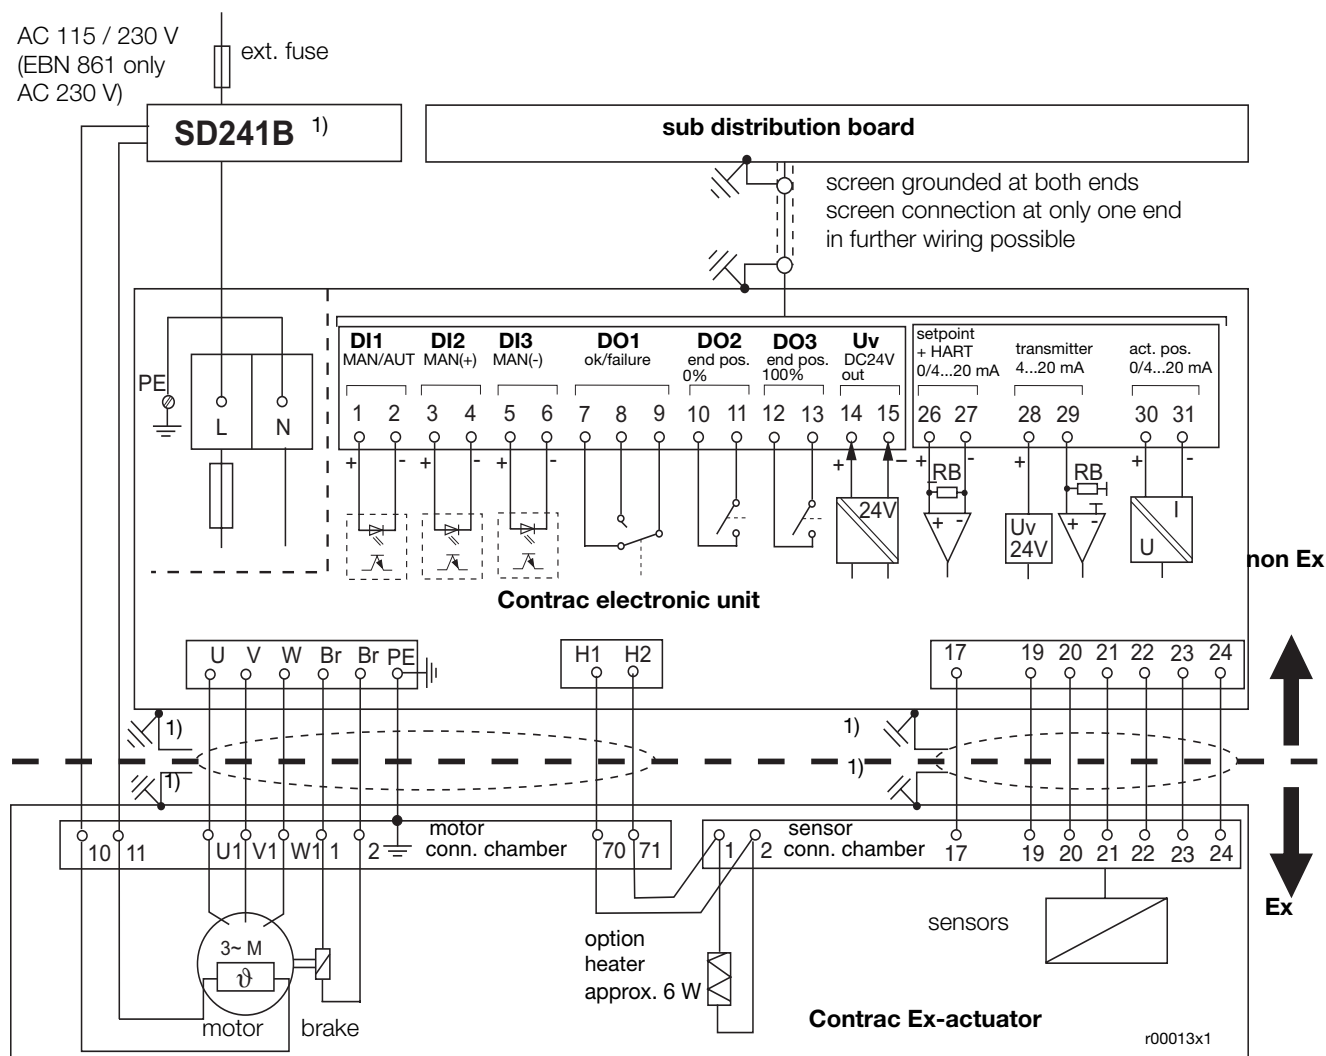

Fig. 8:
- Consider the local regulation concerning the setup of electrical devices within hazardous areas. This applies particularly to EN 60079-14 for the setup of the screen and the potential compensation between the actuator, the electronic unit and the motor protection unit (refer 1) to fig. 8 and 9).
- Use a certified cut-off unit for the thermal motor monitoring. Permitted units are e. g.: type 3RN1, ident no. II (2) G, PTB 01 ATEX 3218 , Siemens or type EMT6-..., ident no. II (2) G, PTB 02 ATEX 3162 , Moeller